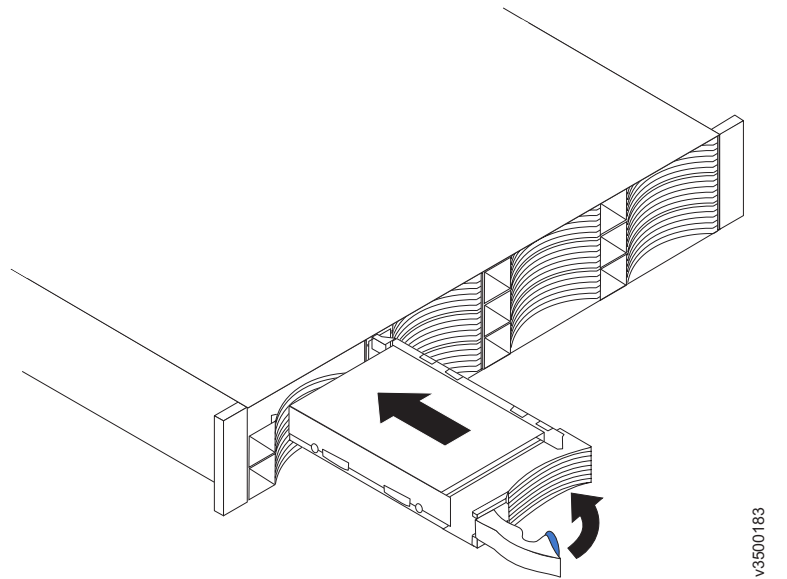

Figure 93. Installing and locking a 3.5-inch drive into its slot
14. Align the drive assembly with the guide rails in the bay (see Figure 93 on page 318).